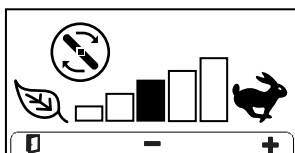

Figure 27
- **Blade-speed screen (Figure 27):** Press the  button to access this screen and press  to adjust the cutting-unit blade speed. This screen can only be accessed when Smart Power is disengaged.